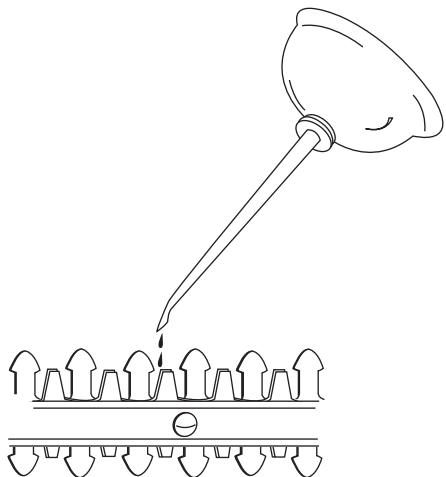

Fig. 6
1. For easier operation and longer blade life, lubricate the hedge trimmer add-on blade before and after each use. Before lubricating, be sure the powerhead is turned OFF. Apply light machine oil along the edge of the top blade strap (Fig. 6).